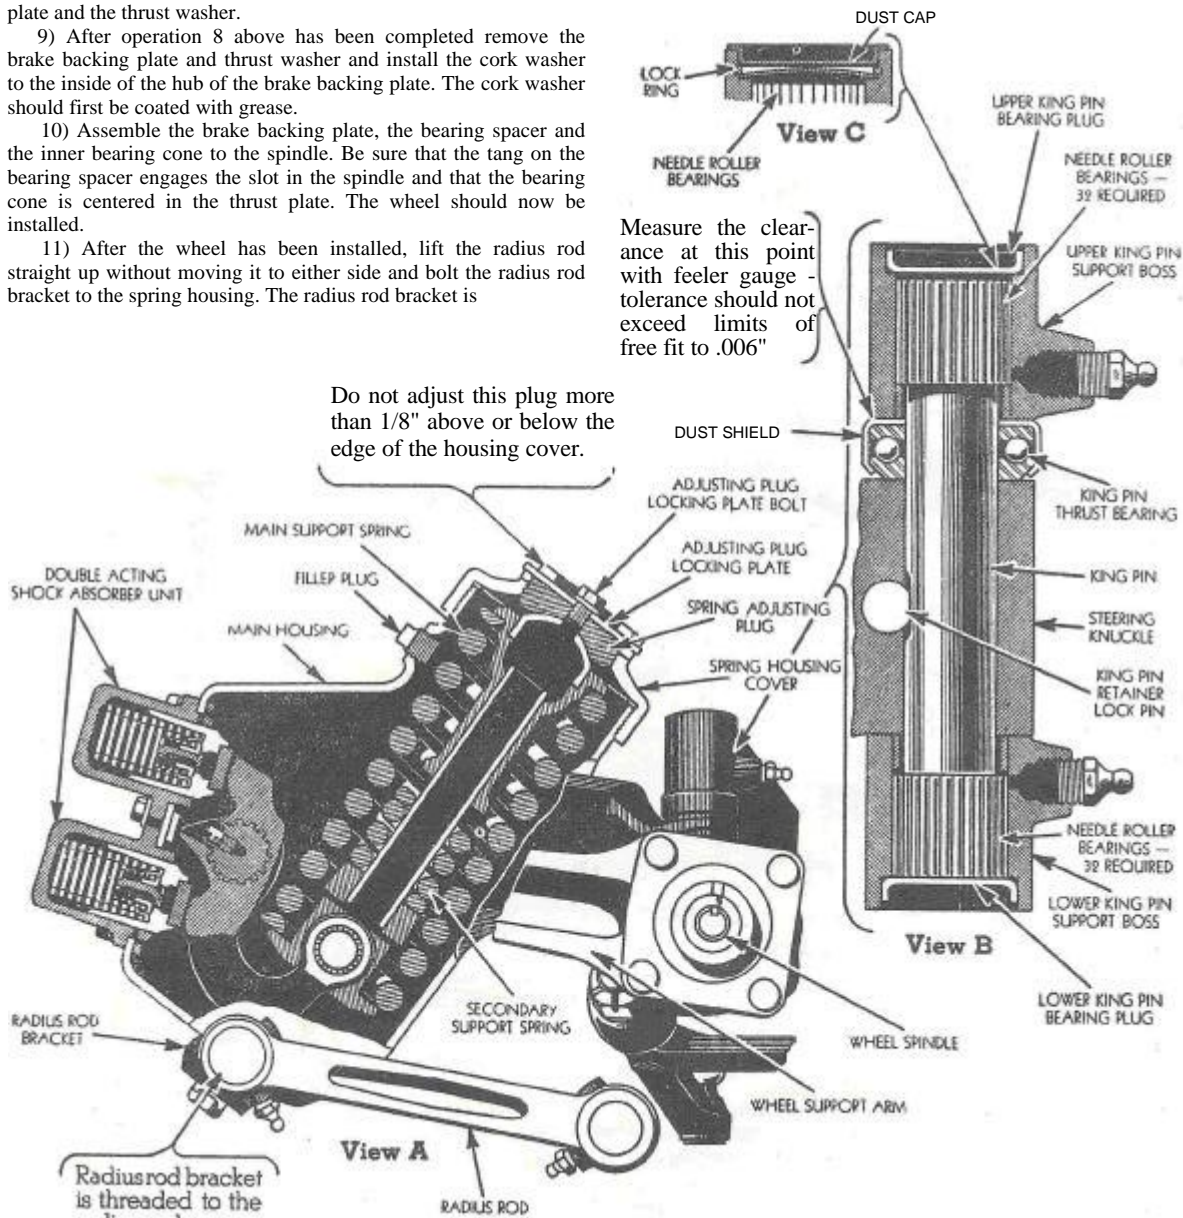

Fig.70
- 4) Remove king pin retainer lock pin. Fig. 70, View B.
- 3) Slide the king pin thrust bearing (Fig. 70) into place between the upper side of the steering knuckle and the upper king pin support boss. The bearing should be installed with the dust shield up.
threaded to the radius rod as described in View A, Fig. 70 and should be screwed all the way into the radius rod before bolting it to the spring housing. If the snug position of the bracket in the radius rod places the bracket at such an angle that it will not line up with the planed surface on the bottom of the spring housing, screw the bracket out until it does line up.
If the wheel setting is not correct, remove the adjusting plug locking plate, screw out the spring adjusting plug (See Fig. 70, View A) with a special wrench as shown in Fig. 72. Coat the threads of the plug with fresh gasket cement and replace it. Coating the threads of the adjusting plug with cement eliminates any possibility of a leak. Screw the adjusting plug in until the wheel setting is correct.